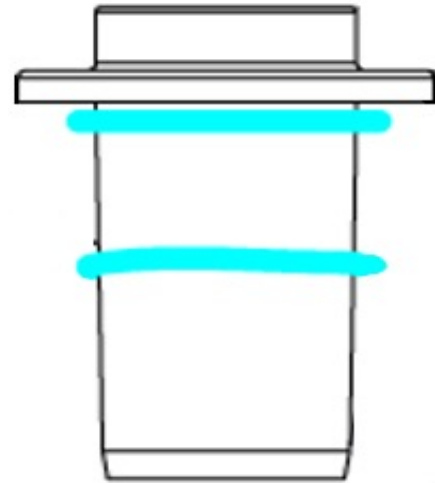

Fig. 19 Apply silicone under flange and ~1/2 way down 3" wall
- III. When the case has been moved into the store, 2 beads (~1/8"-1/4") of silicone will need to be applied around the egress under flange and ~1/2 way down 3" wall (Fig. 19). Reassemble and seal the egress into canopy. Reinstall 4 screws in egress flange.